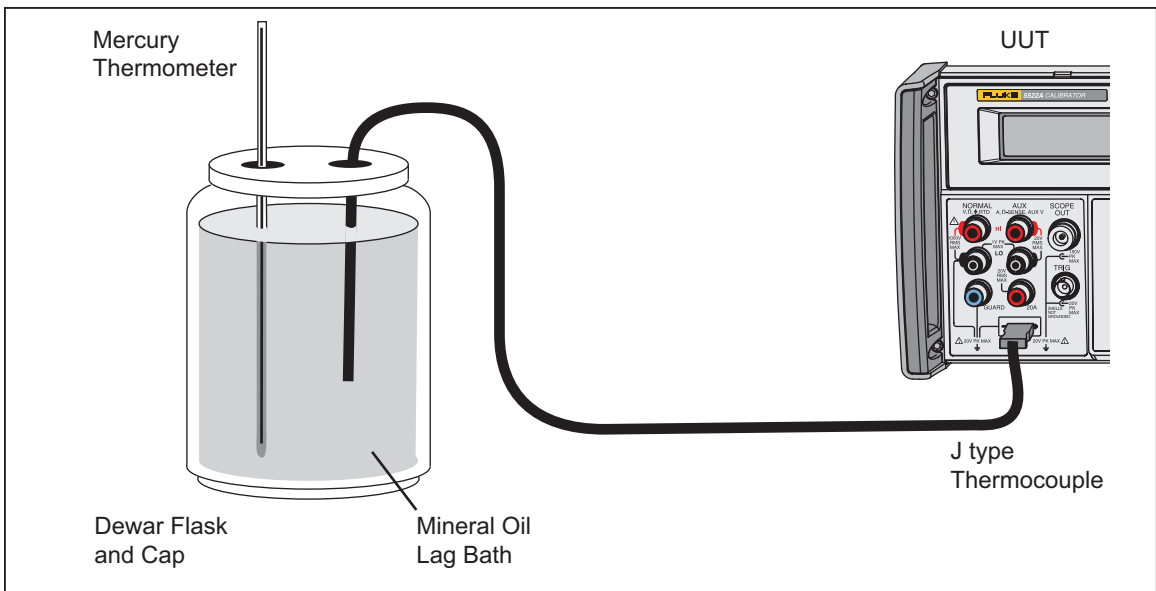

Figure 3-5. Thermocouple Measure Calibration Connections
6. Connect a Type-J thermocouple to the TC terminals on the UUT. Put the thermocouple and a precision mercury thermometer fully in to a mineral oil lag bath that is  $\pm 2$  °C of ambient temperature. The test setup is shown in Figure 3-5.